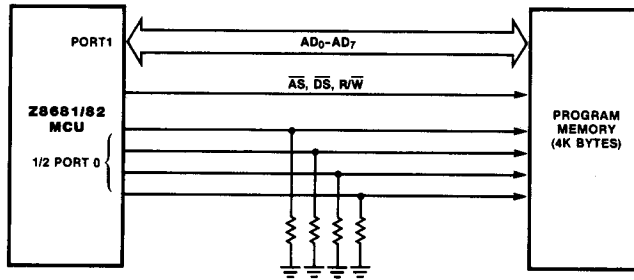

Figure 10. Port 0 Address Lines Tied to Logic 0
Such an initialization routine must reside within the first 256 bytes of executable code and must be physically mapped into memory by forcing the Port 0 address lines to a known state (Figure 10). The proper port initialization sequence is:
*Example.* In Figure 10, the initialization routine is mapped to the first 256 bytes of program memory. Pull-down resistors maintain the address lines at a logic 0 level when these lines are floating. The leakage current caused by fanout must be taken into consideration when selecting the value of the pull-down resistors. The resistor value must be large enough to allow the Port 0 output driver to pull the line to a logic 1. Generally, pulldown resistors are incompatible with TTL loads. If Port 0 drives into TTL input loads ( $I_{LOW} = 1.6 \text{ mA}$ ) the external resistors should be tied to  $V_{CC}$  and the initialization routine put in address space  $FF00_H$ – $FFFF_H$ .